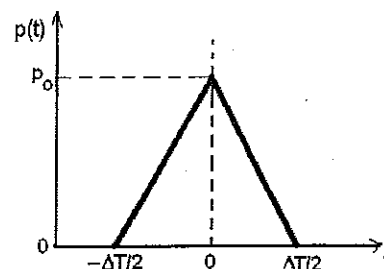

Figure 1
1. This paper contains **SIX (6)** questions and comprises **TWO (2)** pages. Answer **ALL** questions. Unless specifically stated, all symbols have their usual meanings.
**Q2.** A light pulse has a power distribution  $p(t)$  as a function of time  $t$ , as shown in Figure 1. The FWHM of the pulse is  $\tau$ .